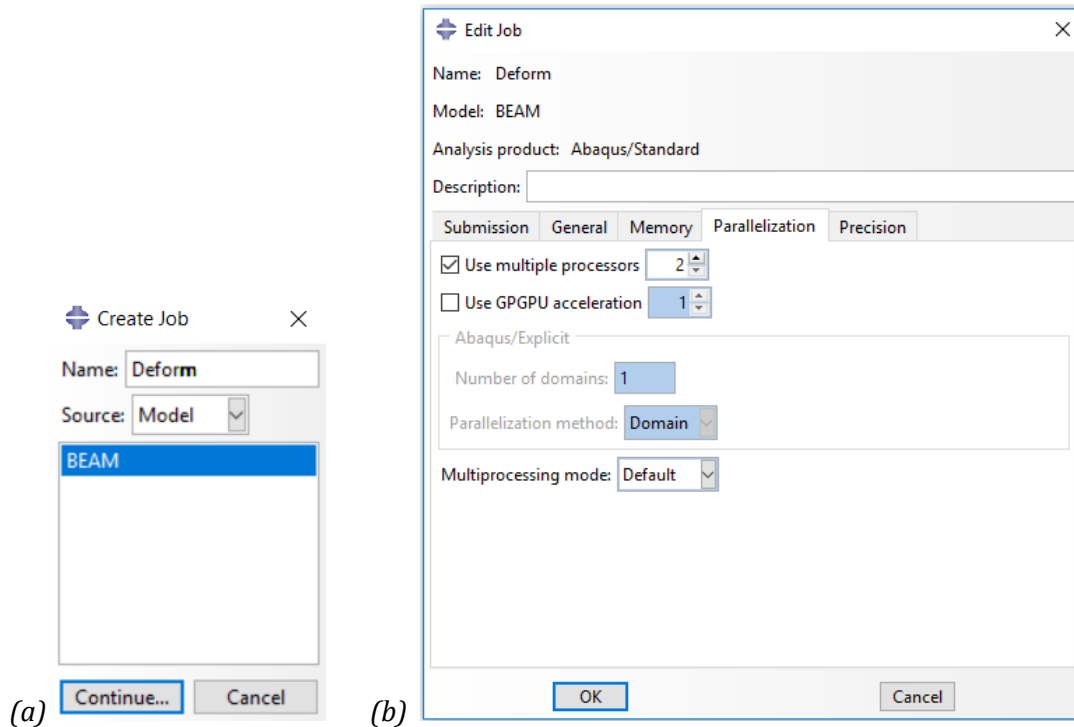

Figure 1-29 – (a) The Create Job dialog box and (b) the Edit Job dialog box.
1. In the Model Tree, double-click **Jobs** to create a new analysis job. Abaqus/CAE switches to the Job module, and the **Create Job** dialog box appears, see Figure 1-29(a).
3. In the **Parallelization** tab, Figure 1-29(b), check the **Use multiple processors** in order to use more than one CPU, allowing faster simulations. Click **OK** to accept the default job settings.